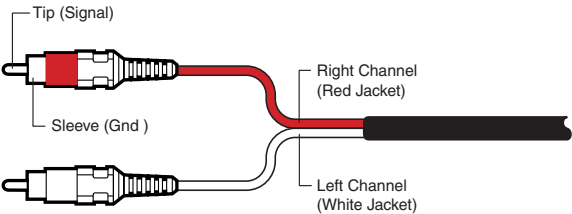

Figure 1-4 — RCA audio connectors
- ④ **Audio input RCA connectors (RCA and AAP models)** — Connect an unbalanced stereo audio source to these L(left) and R(right) RCA connectors (Figure 1-4).